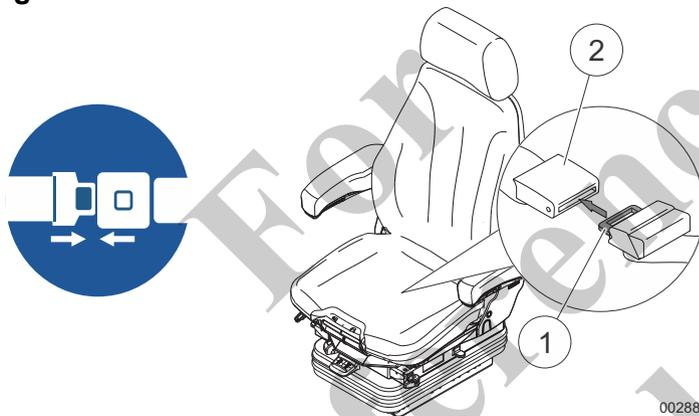

Fig. 16 Closing the seat belt
- 1 Insert the metal tang (1) in Fig. 16 into the belt buckle (2) in Fig. 16.